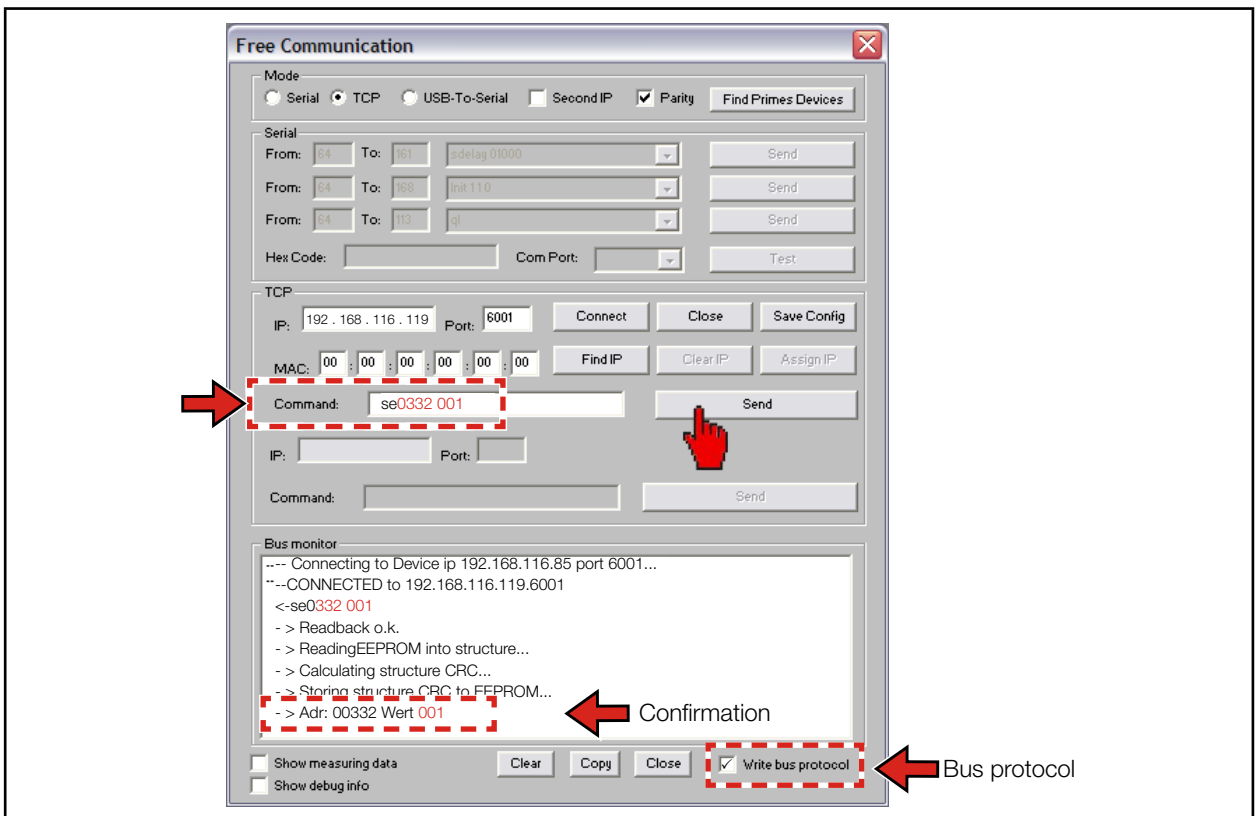

Fig. 9.4: Enable DHCP in the Free Communication dialog box
8. Click on the **Send** button and wait for the confirmation in the bus monitor (see Fig. 9.4 on page 41 „- > Adr:0332 Wert: 001“)